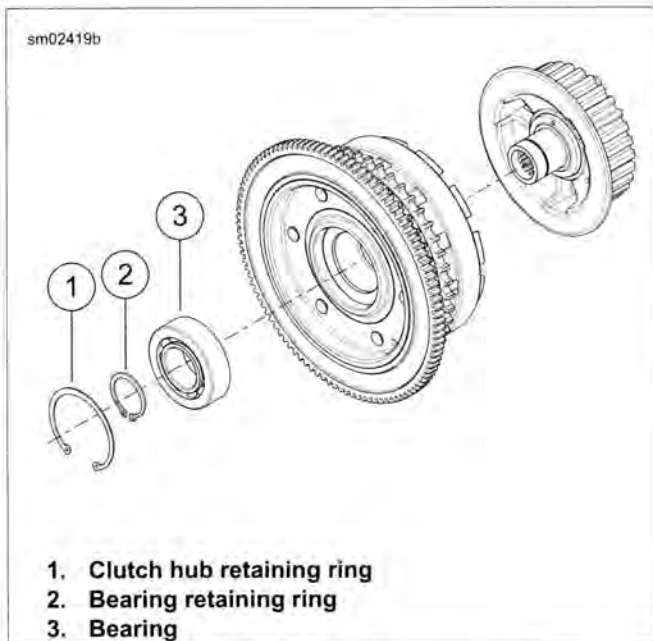

Figure 5-31. Clutch Retaining Rings
4. See Figure 5-31. Remove clutch hub retaining ring (2).
6. See Figure 5-31. Remove bearing retaining ring (1) from groove in clutch shell bore.
3. See Figure 5-31. Install bearing retaining ring (1) with flat side toward bearing.
6. Turn assembly over. Install clutch hub retaining ring (2) in groove of clutch hub.